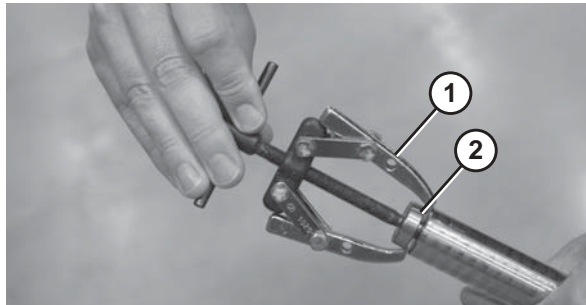

Figure 56
2. Using a bearing removal tool (**Figure 56, item 1**) remove the bearing (**Figure 56, item 2**).